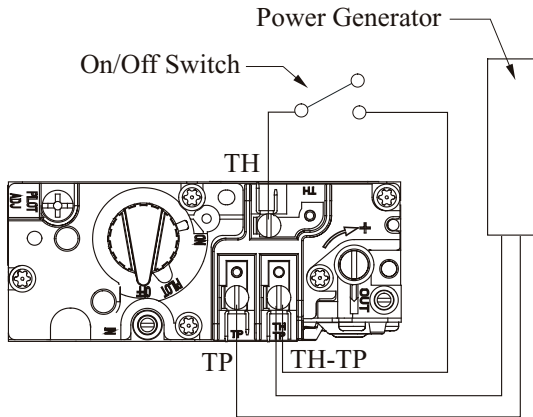

Figure 32. Honeywell VS8520 gas valve.
1. Locate Pilot Adjustment Screw. (See figure 32.)
Pilot won't ignite	Disconnect remote wires and try to light pilot. If pilot now works, remote connections are faulty. Check wiring diagram figure 32.
Main burner will not light	1. Check wiring (see figure 32). 2. Check wall switch for proper connection.